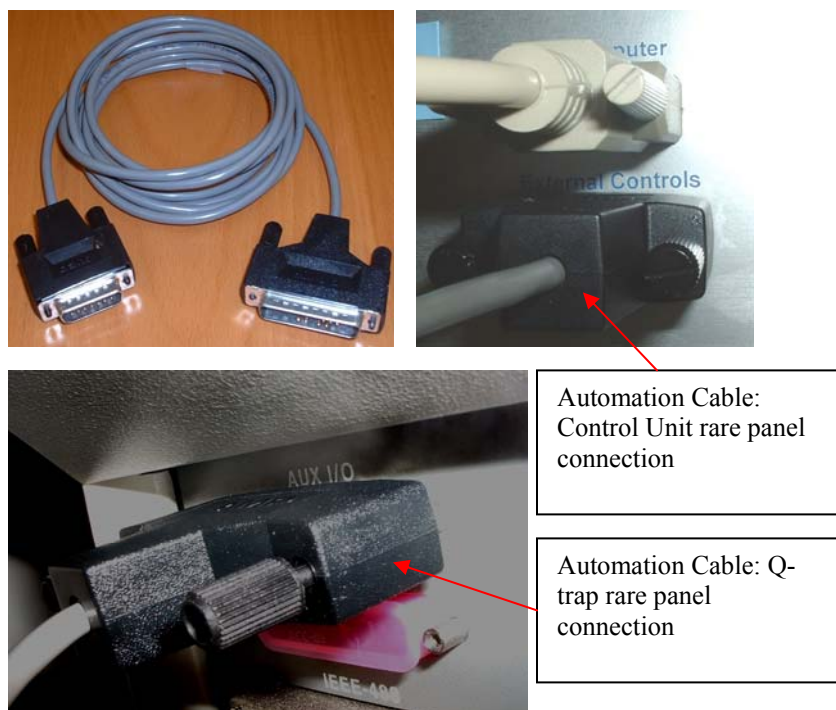

Fig. 7-27. External Control cable and its connection to the rare panel of AP/MALDI control unit and to the side-rare panel of Q-trap.
1. For External Timing mode, **connect** the “External Control” connector on the Control Unit’s rear panel to the Q-trap’s “Aux I/O” port (Fig. 7-27).
Remember: to use External Timing mode, Q-trap and AP/MALDI should be connected through External Control cable (Fig. 7-27).